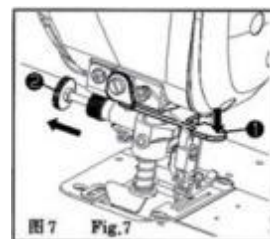
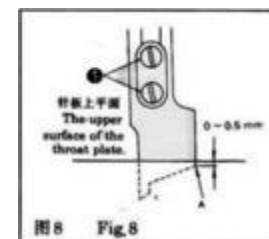
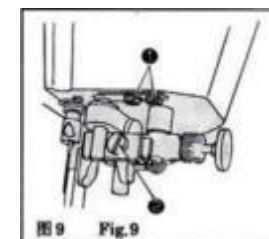

图7 Fig.7
图8 Fig.8
图9 Fig.9
(1) 切刀的操作:
(图 7) 当要使用切刀到时, 请按下切刀座复手柄 ①, 机器运转时就能驱动切刀运动, 要停止使用切刀换成普通平缝时, 请拉动切刀离合销旋钮 ② (按图示方向), 切刀座上弹, 切刀停止动作, 要使切刀脱离, 请在机器停止后操作。
(2) 切刀的调换:
切刀的调换方法如图 8 所示，切刀运动到最下点时，要调节切刀的 A 部至针板平面的距离为 0-0.5mm，更换刀片时，放松 2 枚切刀紧固螺钉①即可。
(3) 切缝宽度的变换：
切缝宽度由针板规格来决定，改变切缝宽度时，也要改变切刀的位置，放松切刀架螺钉②，调正切刀的刀口与针板上刀口相接触，再紧固切刀架螺钉。如果调解切刀平行度，请放松螺钉①（图 9），调节平行直至切布状况良好为止。
(1)How to use the trimmer:(Fig.7.)When the machine starts running,if the knife positioning plate(1) has been pulled down,the trimmer is to be under motion if the running of the conventional lockstitch sewing is desired,pull the knob(2)(as shown on Fig.7)in such a way that the trimmer holder ejects from the lower place to the original upper one.Thus the trimmer stops running.The trimmer won't be made to be disengaged from the working condition unless the machine stops.
(2)Mounting of the trimmer:Procedure of replacement refers to directions as shown on Fig.8.Only when it has been driven to the lower dead point can part A of the trimmer be adjusted up to the range of 0-0.5 millimetre from the upper surface of the throat plate.Loose two screws(L)in order to make replacement of the worn out trimmer.